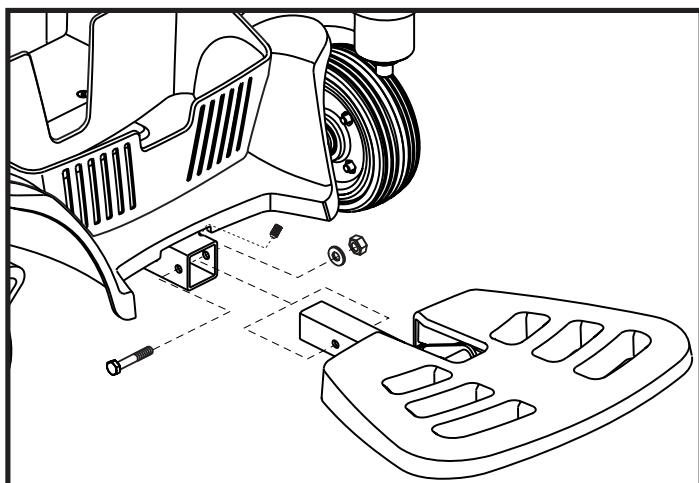

Figure 19. Foot Platform Depth
1. Remove the hardware from the footplatform bracket. See figure 19.